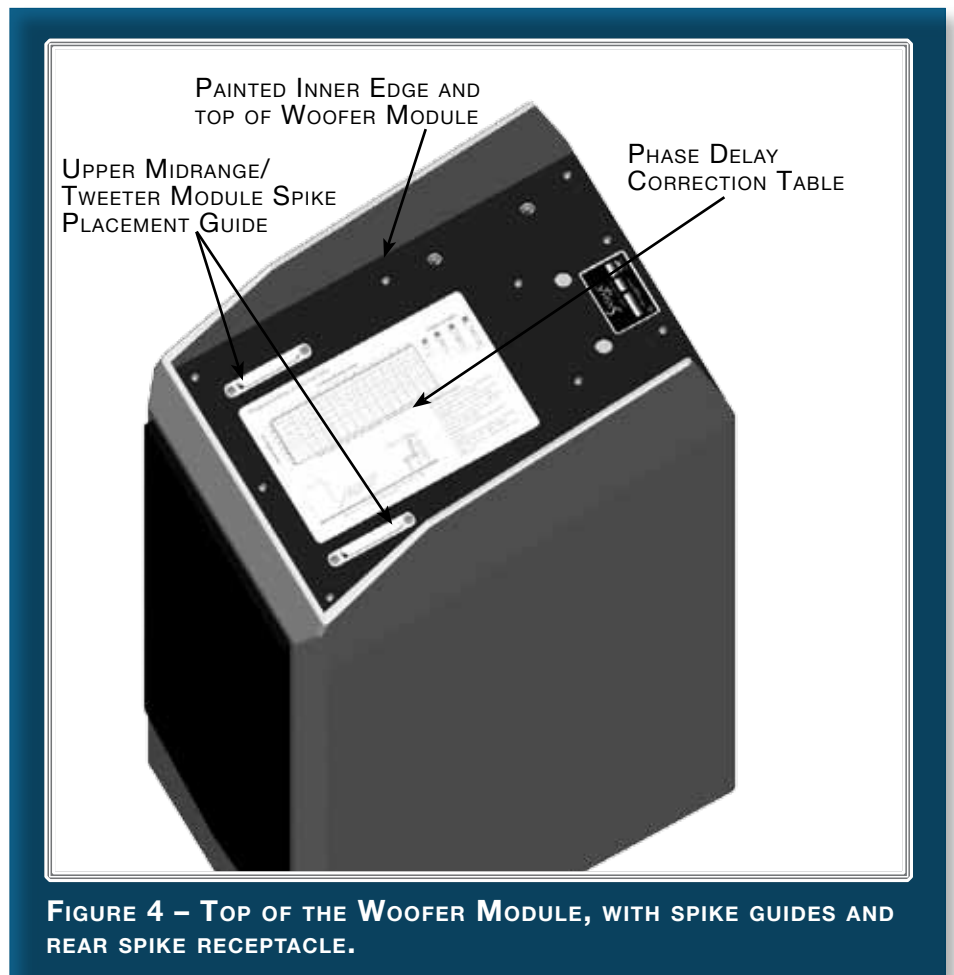

FIGURE 4 – TOP OF THE WOOFER MODULE, WITH SPIKE GUIDES AND REAR SPIKE RECEPTACLE.
- Carefully, place the Upper Mid-range/Tweeter Module's two front spikes into the rear of the Woofer Module guide track (see Figure 4). Hold